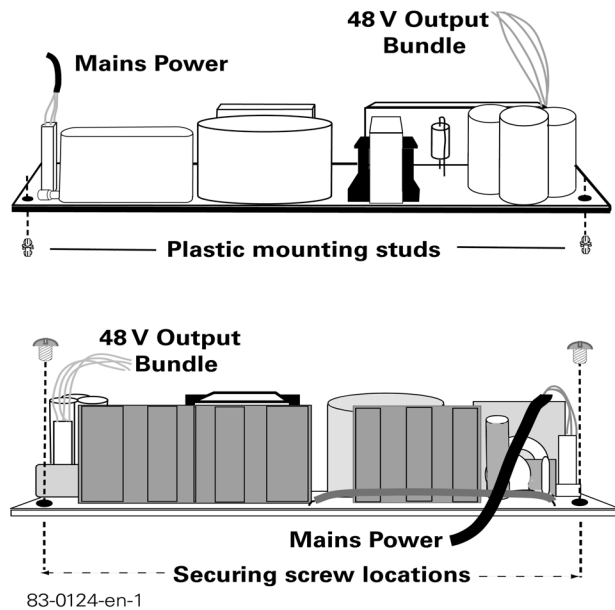

Figure 9-2: Fixing Points: Internal 48V (or 38V) Line Power Module
If you look at the exposed SN2x00 chassis, you will see the motherboard and the 12V power module that is already installed: see Figure 1. (The figures show the general arrangement of the chassis-mounted components only, with little or no component details. The IC-4BRV card is omitted for clarity). To the left of the existing 12V power module are two screw holes tapped into dimples, and two smaller holes. These four holes are for mounting the 48V (or 38V) Line Power Module: see Figure 9-1 and Figure 9-2.
Step 3	Insert the plastic mounting studs into the Line Power Module, one into each of the two corner holes that are on the opposite side to the finned heat sinks. Insert them from below. See the upper picture in Figure 9-2 above.
Step 5	From above, insert the screws into the module, one into each of the two holes at the corners of the heat-sink side. Screw them home so that the screws pass through the foil and secure the module onto the SmartNode chassis dimples. See the lower picture in Figure 9-2.
Step 6	First insert the white 4-lead 48V (or 38V) supply cable in the Line Power Module's socket. Then connect it to the 48V/38V socket on the motherboard. You can not insert the sockets the wrong way round. See Figure 9-2.